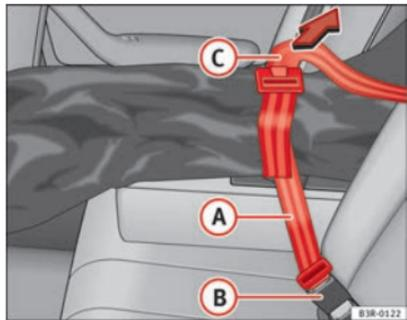

Fig. 117 Securing the ski bag on the centre seat belt buckle on the rear seat bench
- Insert the fastening belt (A) ⇒ Fig. 117 of the ski bag into the centre seat belt buckle (B).
- Pull the free end of belt (C) to tighten.